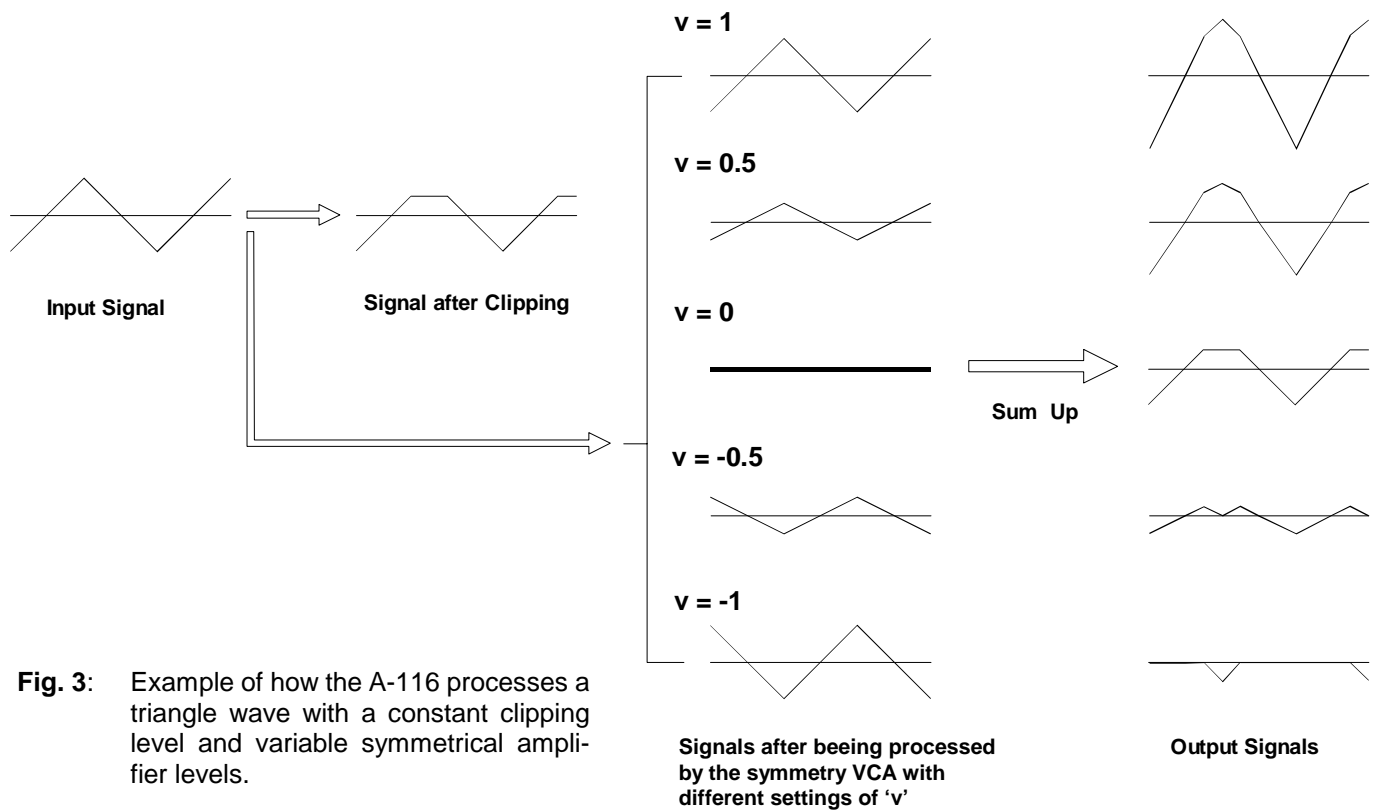

Fig. 3: Example of how the A-116 processes a triangle wave with a constant clipping level and variable symmetrical amplifier levels.
- D Fig. 3 (p. 6) shows an example of the different waveforms which emerge from clipping a triangle wave and putting it through different amounts of symmetrical amplification.